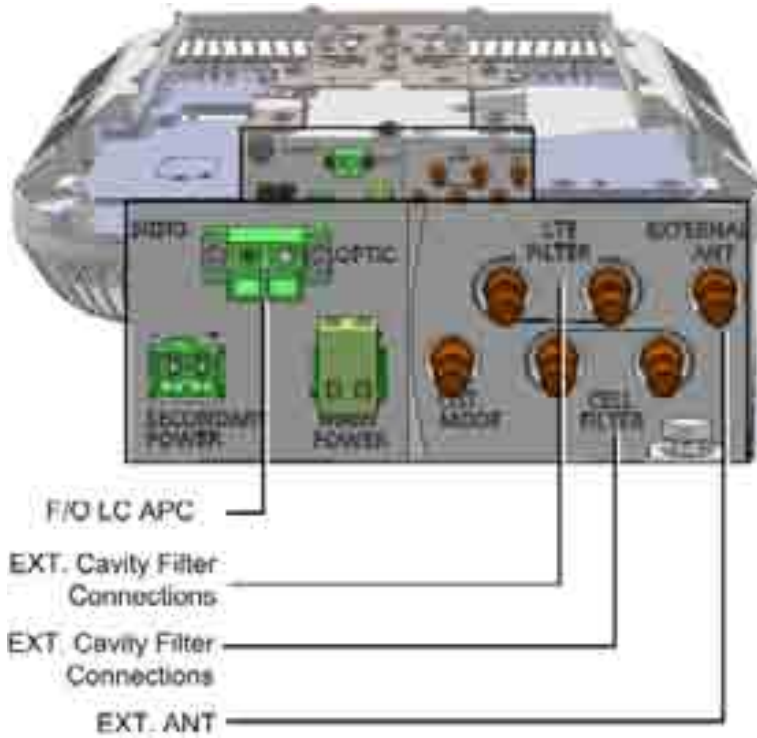

Figure 5-79. RAU Front Panel Connections
6. Connect optic fiber pair to RAU module LC APC connector. See Figure 5-79.